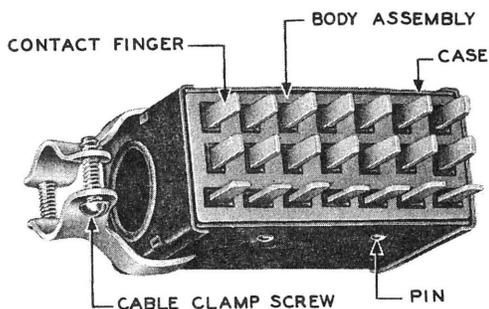

Fig. 1 - Howard B. Jones Plug Arranged for 21 Contact Fingers
- 1.01 This section covers Howard B. Jones multicontact plugs and sockets of the types illustrated in Figs. 1 and 2.